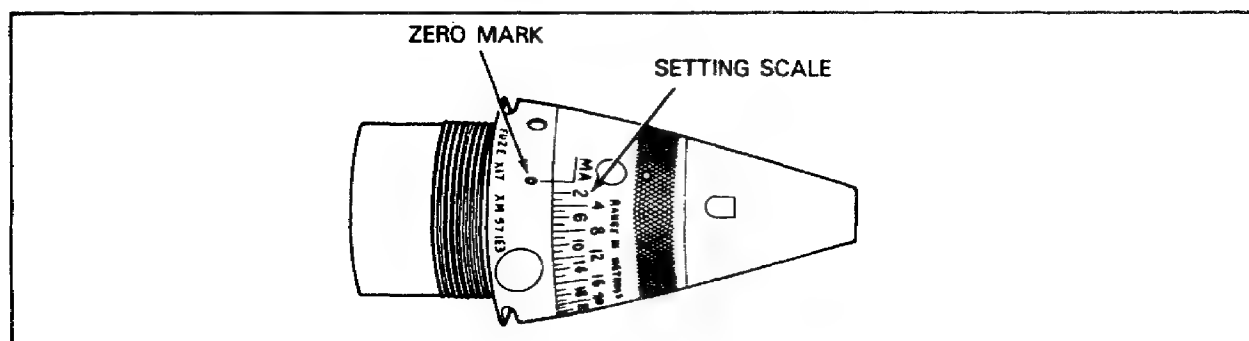

Figure 67. Typical MT Fuze.
**Mechanical Time Fuze.** The mechanical time (MT) fuze (Figure 67) contains a clock mechanism. The clock mechanism is set to a specific time before the round is fired. The clock starts when the round is fired. When the set time has expired, the round detonates. This fuze can be identified by the time scale encircling its body. Mechanical time fuzes may be unpainted with engraved markings or black with white engraved markings.